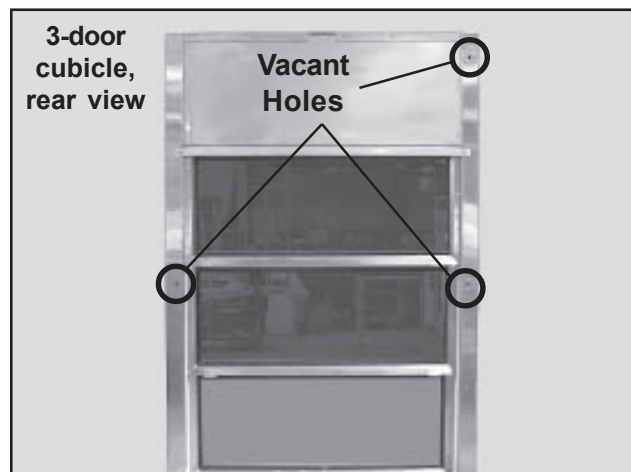

Figure 54. Vacant Holes
2. Three vacant holes are present in the rear of the columns (Figure 54). Press an appropriate size snap-button hole plug (supplied) into each of these screw holes.